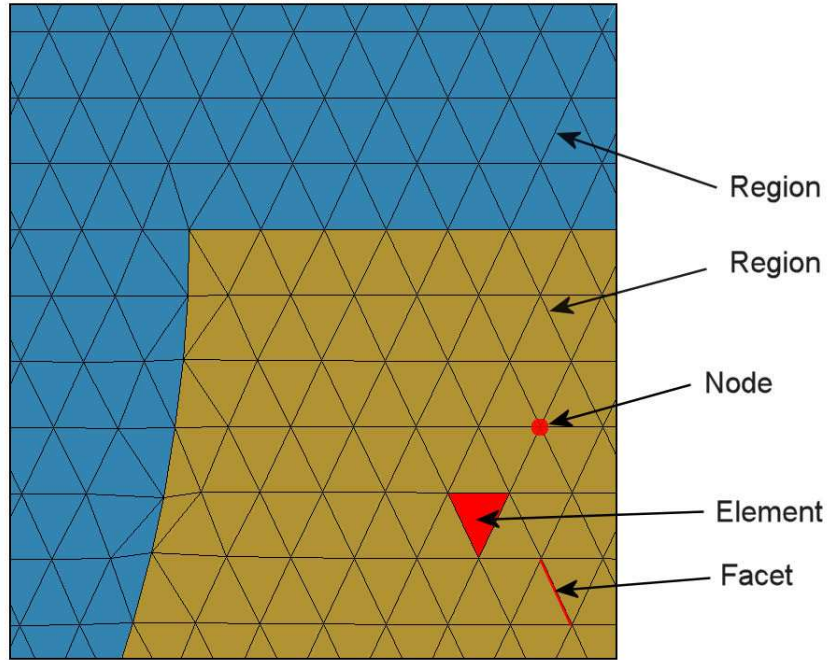

Figure 1: Conformal triangular mesh – definition of terms.
The basis of the finite-element approach is to divide the full solution volume into a number of small volumes, or *elements*. Here, the term *small* indicates that element dimensions are much less than the scale length for variations of field quantities. The division of the volume is called the *computational mesh*. Figure 1 shows the type of mesh used for the two dimensional solutions of **RFE2**. The figure defines three terms that will be used throughout this manual:
The elements in Fig. 1 have triangular cross-sections. In a planar solution, the cross-section lies in the x - y plane and the elements extend an infinite distance in the z direction. In a cylindrical solution, an element is a figure of revolution about the axis with a triangular cross-section in the z - r plane.
The mesh in Fig. 1 has the important property of *conformality*. The term means that the triangles have been specially shaped to conform to the boundaries between materials (*regions*). As a result, each element has an unambiguous material identity. The finite-element method is based on two approximations: 1) material properties in an element are uniform and 2) elements are small enough so that the field quantities can be approximated by simple interpolation functions. With these assumptions, the governing differential equation can be integrated over elements surrounding a node to yield a linear equation. This equation relates the field quantity at the node to those at the surrounding nodes. The coupled set has one linear equation for each node in the mesh. In **RFE2**, solution of the set representing the complex-value Poisson equation gives the quasi-electrostatic potential at each node. We can then perform two-dimensional interpolations to find harmonic potential at intervening points, or take numerical spatial derivatives to find the components of the electric field.
2. **Mesh** analyzes the boundary specifications and automatically generates a set of conformal triangles such as those of Fig. 1. The program creates an output file that lists the locations of nodes and the identities of elements.